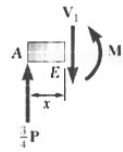

Fig. 9.17
1. **From  $A$  to  $D$  ( $x < L/4$ ).** We draw the free-body diagram of a portion of beam  $AE$  of length  $x < L/4$  (Fig. 9.17). Taking moments about  $E$ , we have